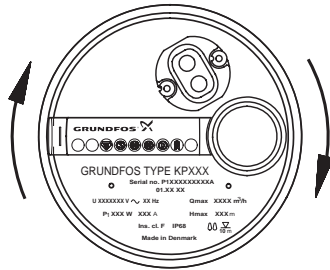

Fig. 3
3. Observe the movement of the pump (jerk). If the pump moves as shown in fig. 3 (clockwise), the direction of rotation is correct (counter-clockwise). If not, two of the supply phases to the motor should be interchanged.